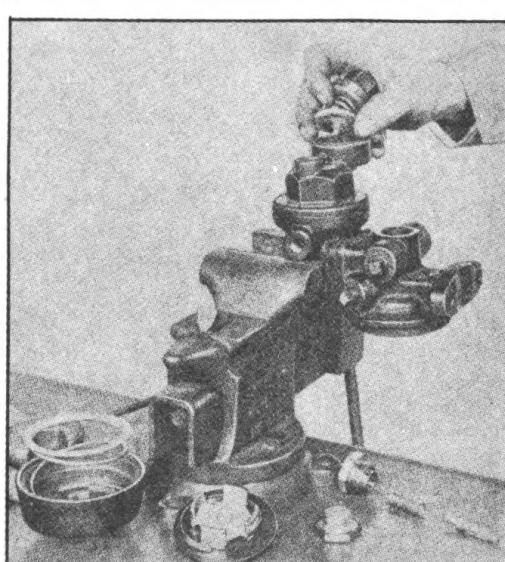

FIGURE 40. REMOVING PRESSURE REGULATING CAP
1. Remove pressure regulating cap, spring and diaphragm (Figure 40).